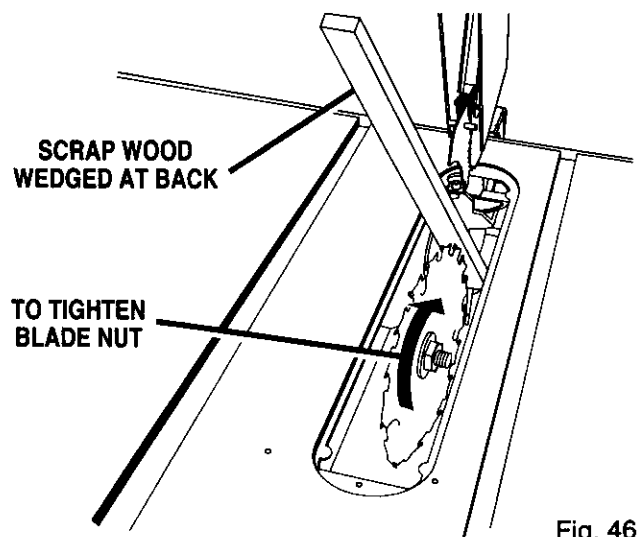

Fig. 46
- Wedge a block of wood at the back of the blade. See Figure 46.